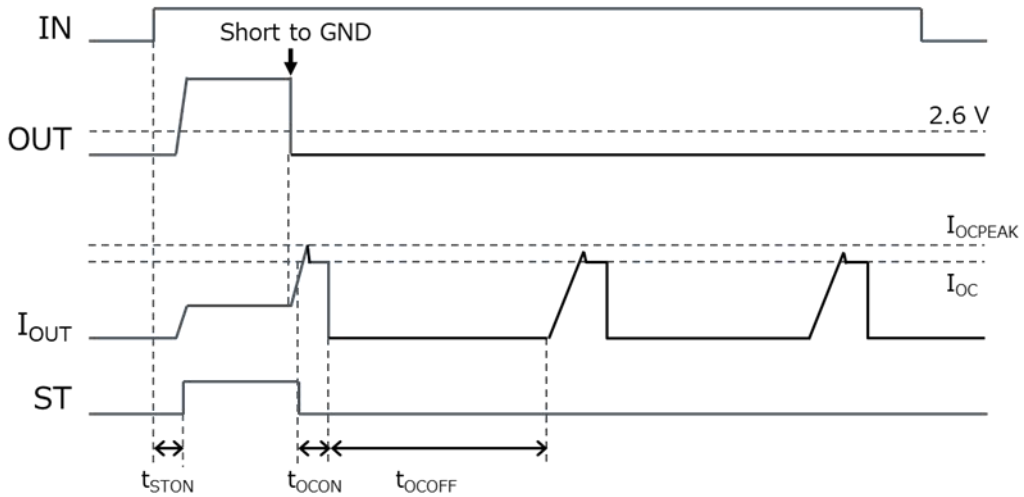
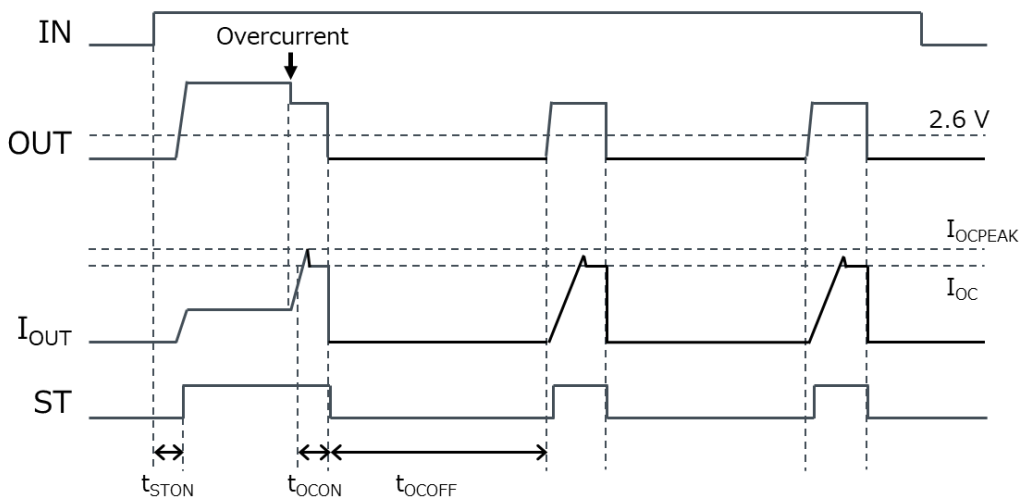

Figure 46. Overcurrent Protection Timing Chart (Short to GND)
Figure 47. Overcurrent Protection Timing Chart (Overcurrent)
During intermittent operation due to the output being shorted to GND, the diagnostic output (ST) goes Low (Figure 46), but if the output voltage does not fall below 2.6 V (Typ) due to overcurrent, ST switches in synchronization with the intermittent operation of the output. (Figure 47)